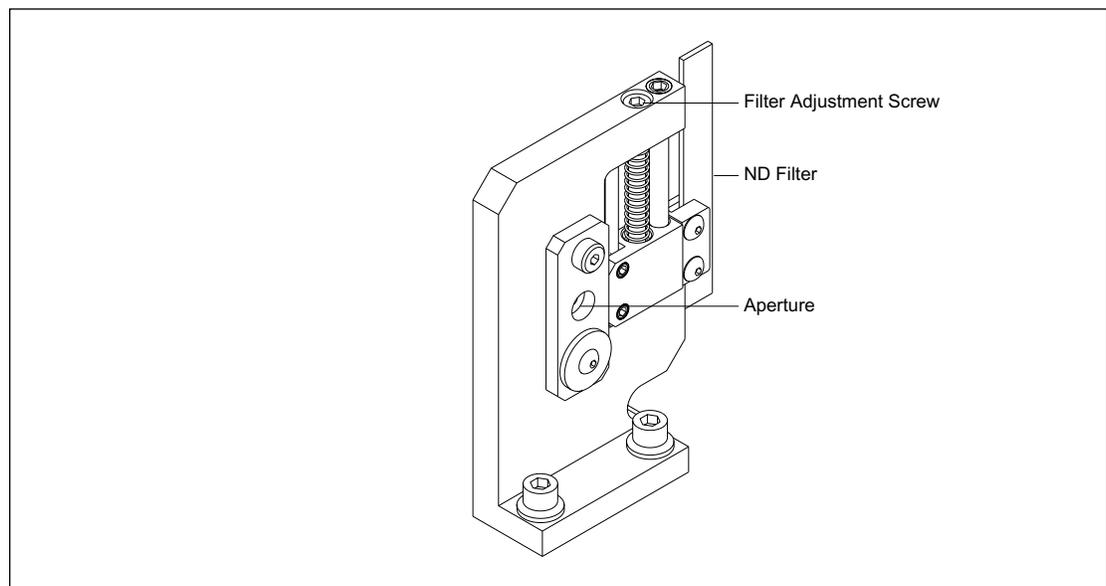

Figure 4-22. Green Laser ND Filter Assembly.
The green laser neutral-density (ND) (figure 4-22) filter is located immediately after the green laser line filter assembly. The ND filter is a piece of glass with a coating that is graduated from top to bottom. This coating attenuates all light that passes through it. The filter can be raised or lowered by the filter adjustment screw to adjust the intensity of the laser beam. The ND filter assembly also has an adjustable aperture that is in line with the excitation light between the second turning mirror and the capillary detection assembly. The ND filter assembly is secured to the optical baseplate with two screws.